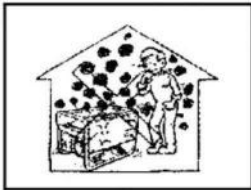

Fig1
1. Do operate it at a well ventilated place, for the exhaust contains poisonous carbon monoxide.. (Fig 1)